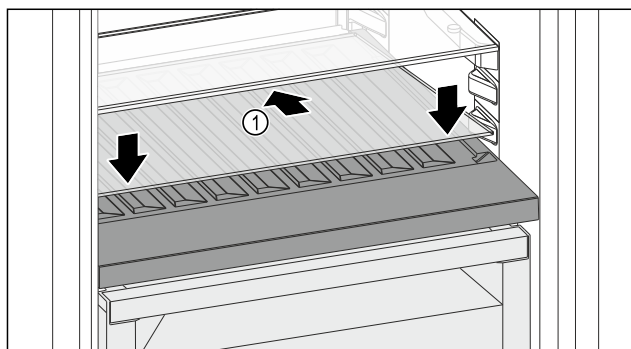

Fig. 86
- Place the glass shelf Fig. 86 (1) at an angle, tilted back and down.
- Lower the glass shelf Fig. 86 (1) at the front.